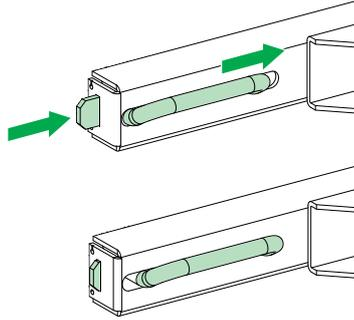

Figure 75
- De-latch the locking handles towards each other to release the VCB from the transport trolley. Refer to Figure 75.
5. De-latch the locking handles towards each other to release the VCB from the cubicle. Refer to Figure 75 in Insertion of the EvoPacT HVX VCB into the Cubicle, page 82.
7. Latch the locking handles of the VCB in the cubicle. Refer to Figure 75 in Insertion of the EvoPacT HVX VCB into the Cubicle, page 82.